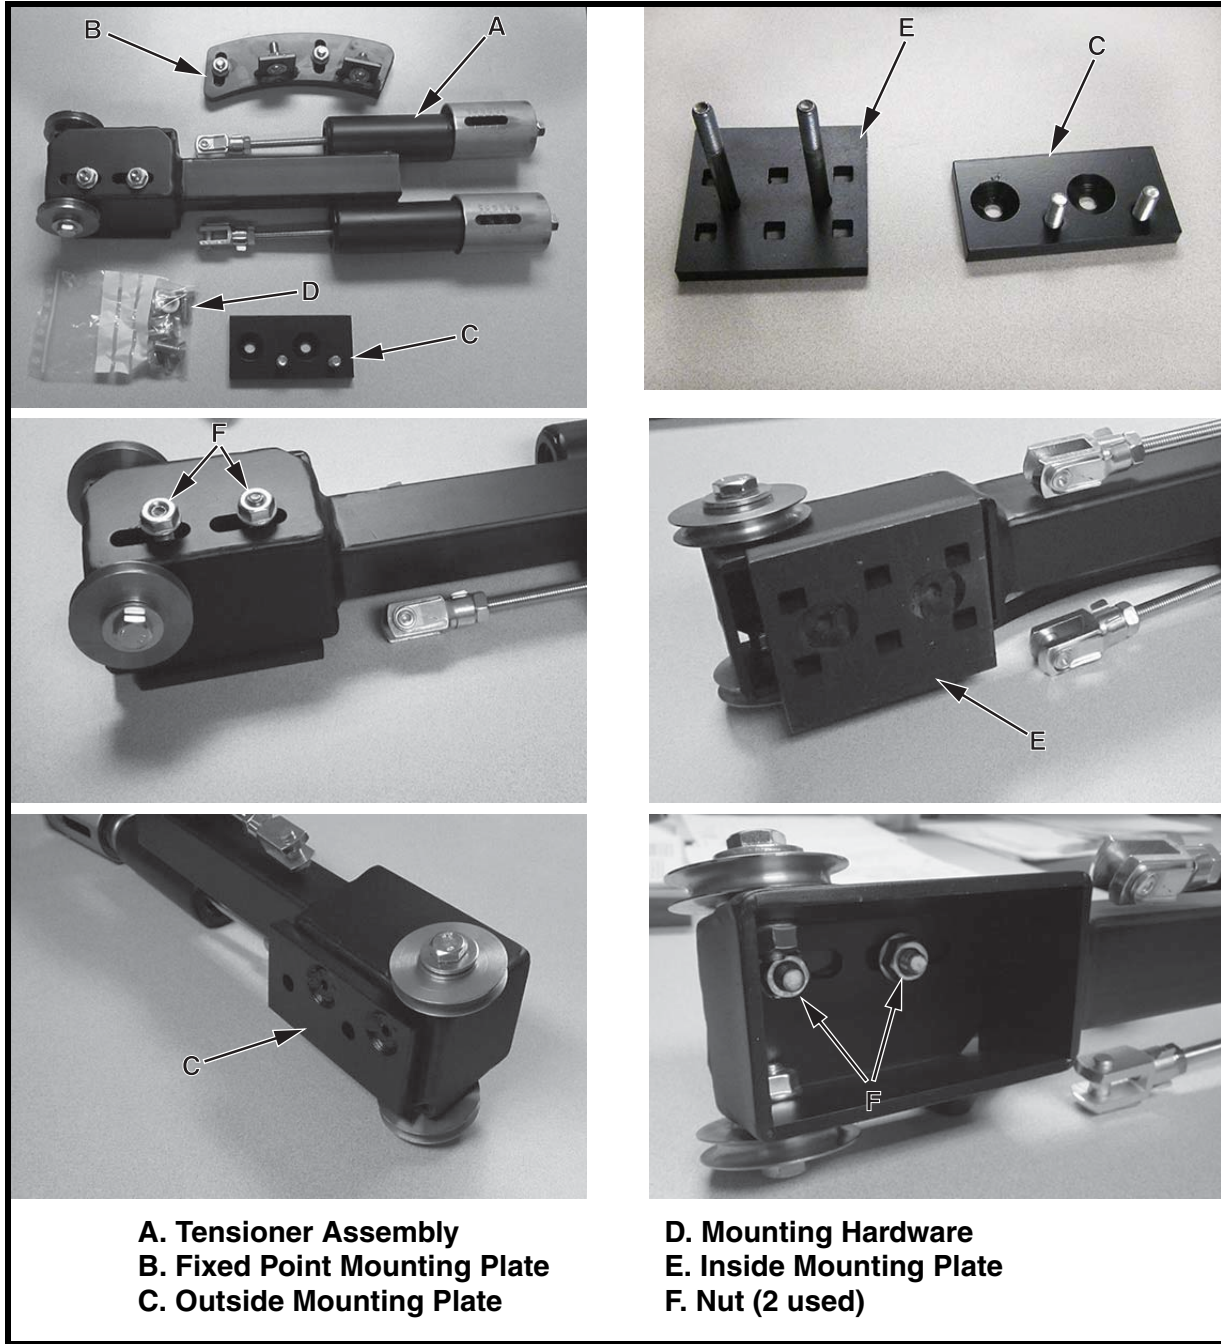
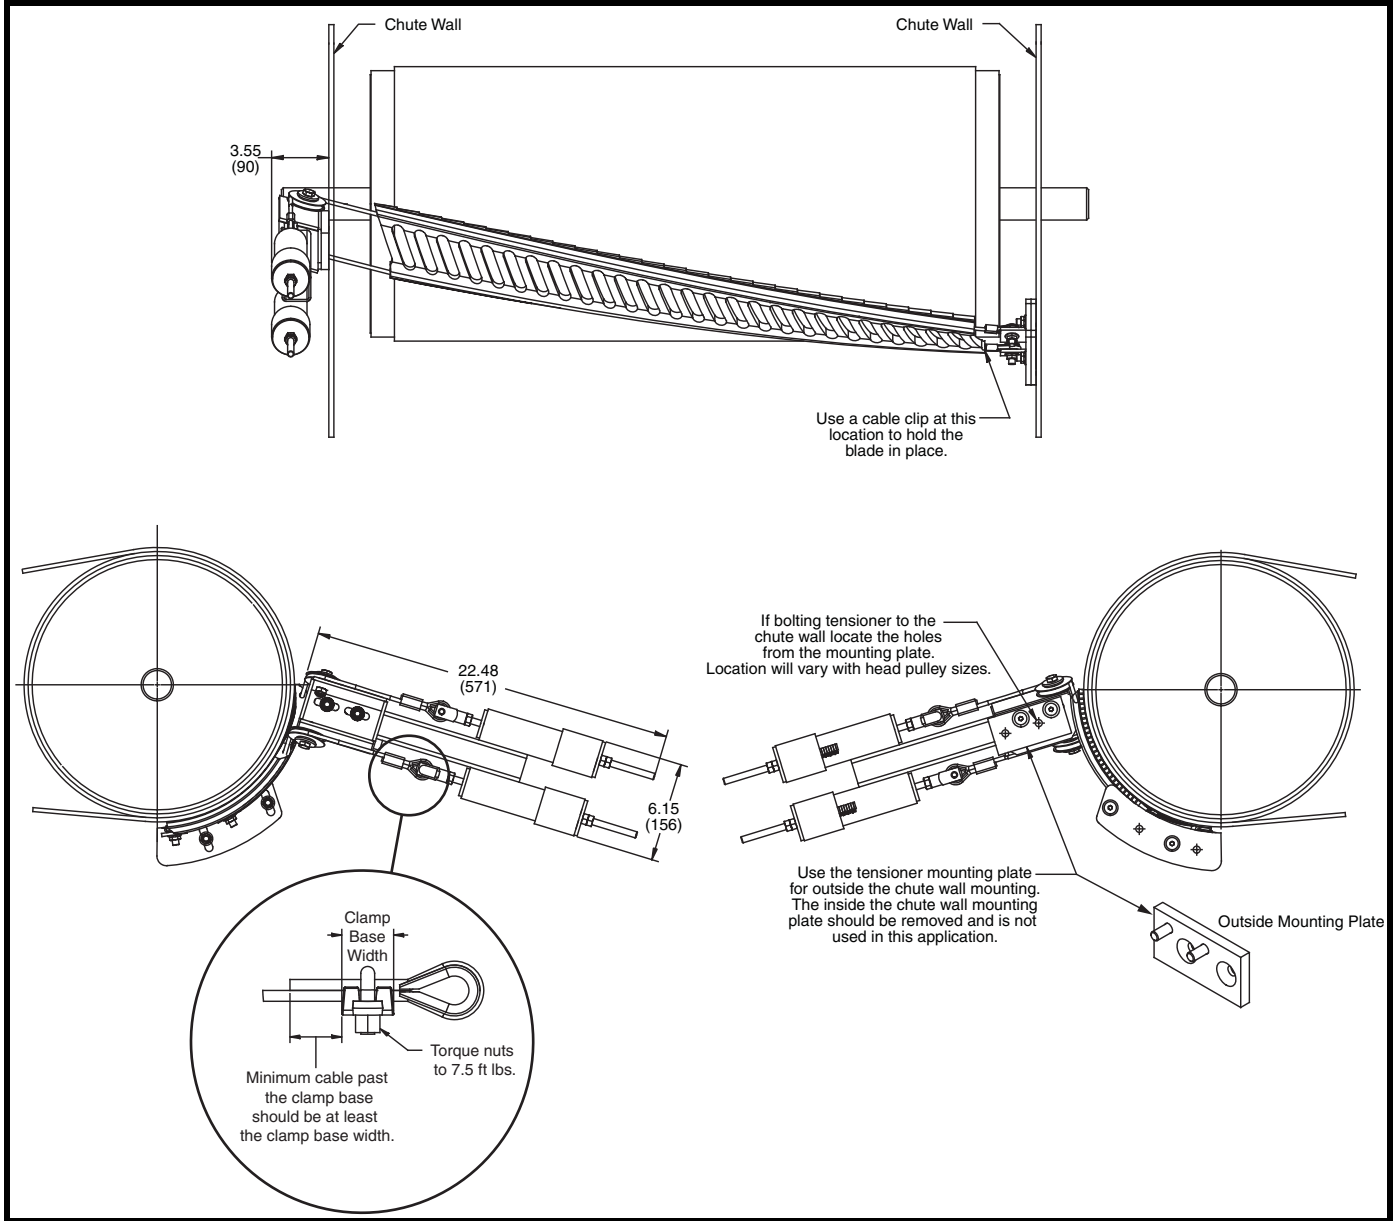

Figure 4. Tensioner Mount Plates
Figure 6. Installing Tensioner on Outside Chute Wall
- d. Install outside mounting plate on tensioner. See Figure 4.
- (1) Remove nuts (F).
- (2) Remove inside mounting plate (E) from tensioner assembly (A).
- (3) Install outside mounting plate (C) on tensioner assembly.
- (4) Install and tighten nuts (F).
- e. Position tensioner in desired location free from obstructions as shown in Figure 6. Make sure cleaner cables will not rub on chute wall cutouts. Reposition tensioner or enlarge cutouts as required.
3. Assemble cable eyelet and clamp as shown in Figure 6.